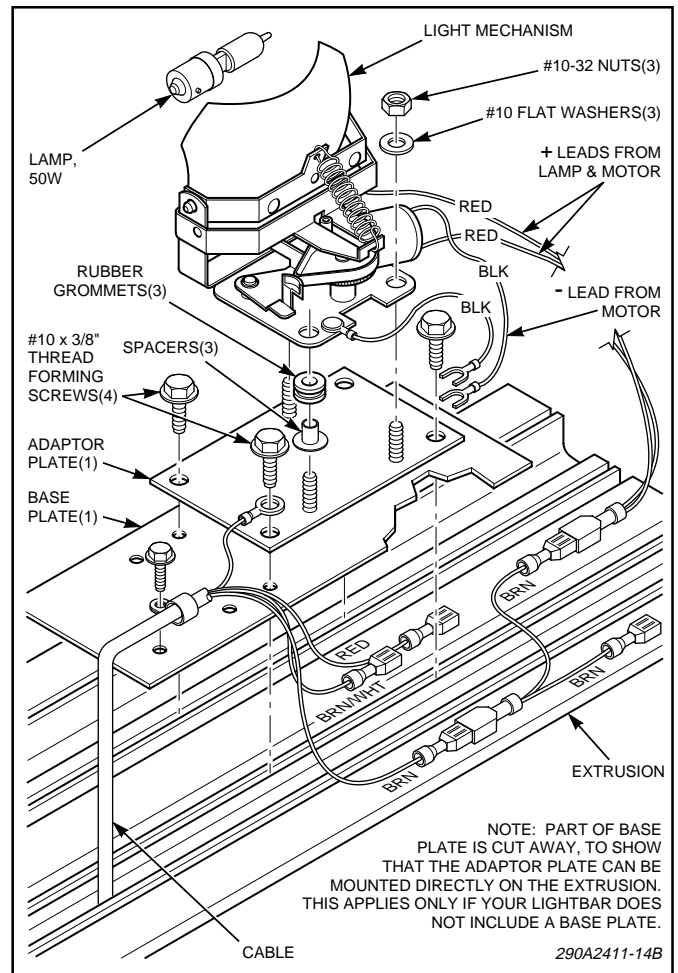

Figure 5.
3. See figure 5. Locate the two installation holes in the baseplate. Place the adaptor plate (with PEM studs) in position and secure with the two #10 thread-forming screws.
Model JM-FAST is not equipped with a base-plate. Center the adaptor plate on the extrusion and secure with the two #10 thread-forming screws (see figure 5).
4. Place the traffic clearing light assembly on the adaptor plate and secure with the three #10-32 hex nuts and #10 flat washers as shown in figure 5.
If you removed the cable clamp and ground wire to facilitate kit installation, ensure that both of these components are properly reinstalled in an appropriate location (see figure 5).
5. Ground both black wires from the traffic clearing light mechanism as shown in figure 5. Complete the wiring as follows:
- a. See figure 5. Connect the male terminal of the Light Assembly cable's brown wire to the female terminal of the Light Assembly wiring harness' double brown wire.
- b. See figure 5. Connect a male terminal from the double brown wire to the female terminal on the traffic clearing light mechanism's double red wire.